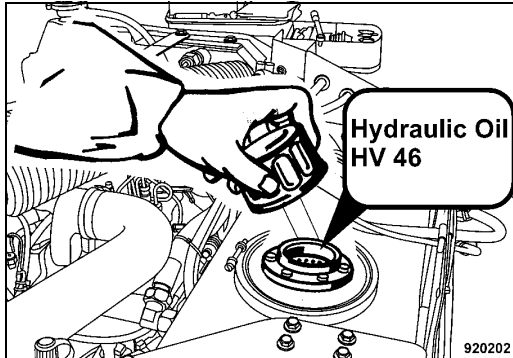

Fig. 169
- Fill in new hydraulic oil (Fig. 169).